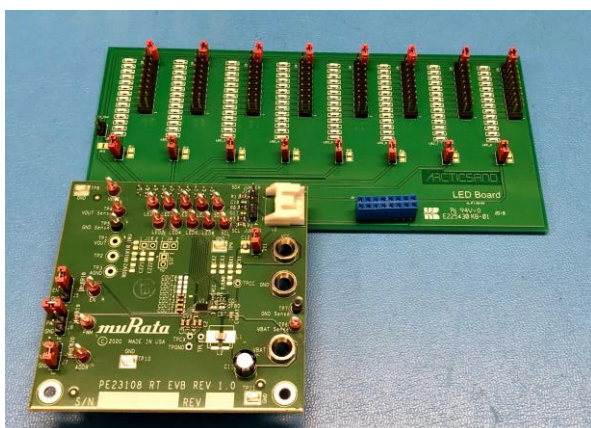

Figure 2: Assembled PE23108 Evaluation System
To setup the evaluation system, follow the steps outlined below before starting the Murata Studio software. The assembled system is shown in Figure 2.
1. Attach the Demo Board to the LED Board J1 connector by press-fitting the two boards together, one on top of the other, as shown in Figure 2. The top edge of the demo board attaches to the bottom edge of the LED Board as shown in Figure 3.